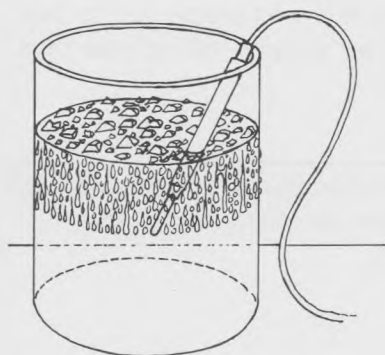

Figure 3.1–1. *Lifting the temperature sensor in the can of water.*
12. Carefully raise the temperature sensor in the water in the can until it is just opposite to the bottom of the band of condensation on the outside surface of the can. See Figure 3.1–1